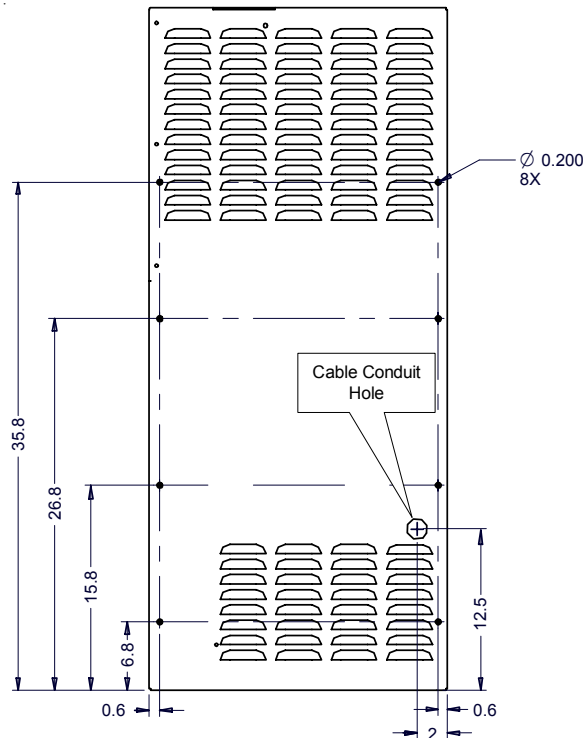

Fig 1-1 Mounting Hole Locations
1. Place the Battery Side Module (BSM) on the pad beside the UPE-M3 enclosure (Fig. 1-1). Slide the BSM-3 against the side of the UPE-M3, ensuring that the top edge of the BSM-3 rests between the rows of louvers.